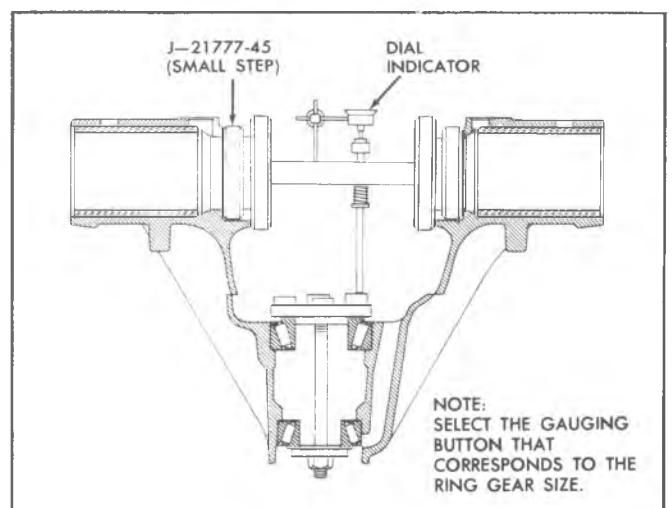

Fig. 20A—Depth Gauge Installed in Position
11. Rock the plunger rod slowly back and forth across the button until the dial indicator reads the greatest deflection. At this point, set the dial indicator to zero. Tools will now be positioned as shown in figure 20A.